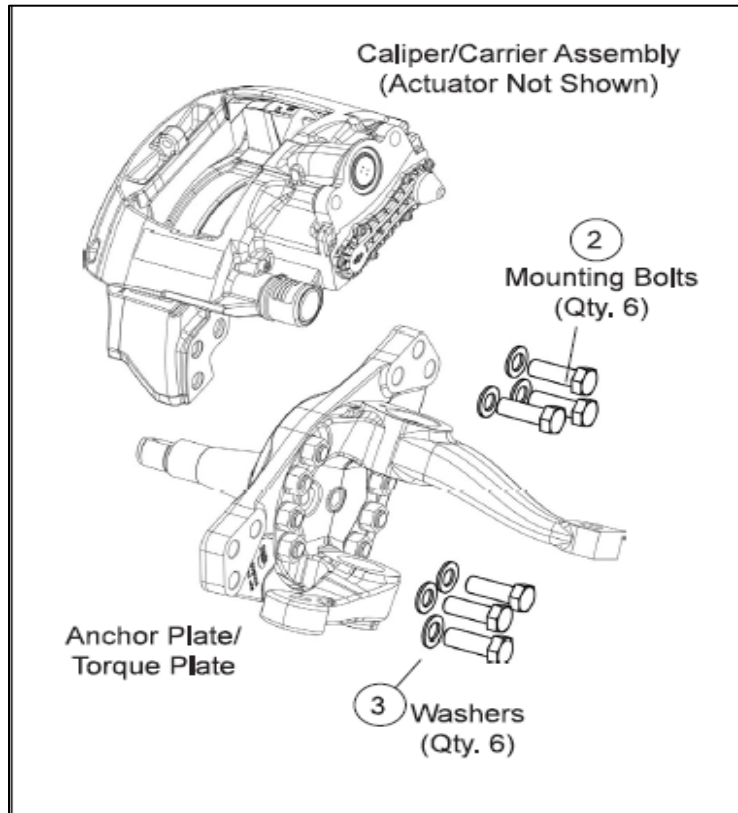

Figure 10: Axial Mount Caliper/Carrier
- Supporting the air disc brake in a safe way, remove and discard the six bolts (**Figure 10, Item 2**) and washers (**Figure 10, Item 3**) attaching the brake to the anchor plate and remove the caliper/carrier assembly from the vehicle.
- Supporting the air disc brake in a safe way, attach the brake to the anchor plate using six bolts (**Figure 10, Item 2**) and, if included, washers (**Figure 10, Item 3**). Do not reuse removed bolts and washers.